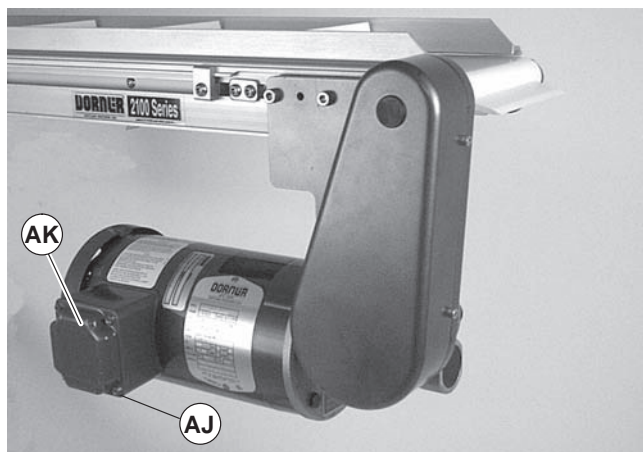

Figure 27
- a. Loosen terminal box screws (Figure 27, item AJ) and remove cover (AK).